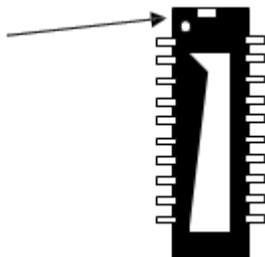

Figure 2
2. Make note of the “Notch” and/or the “dot” located on the IC (Figure 2).